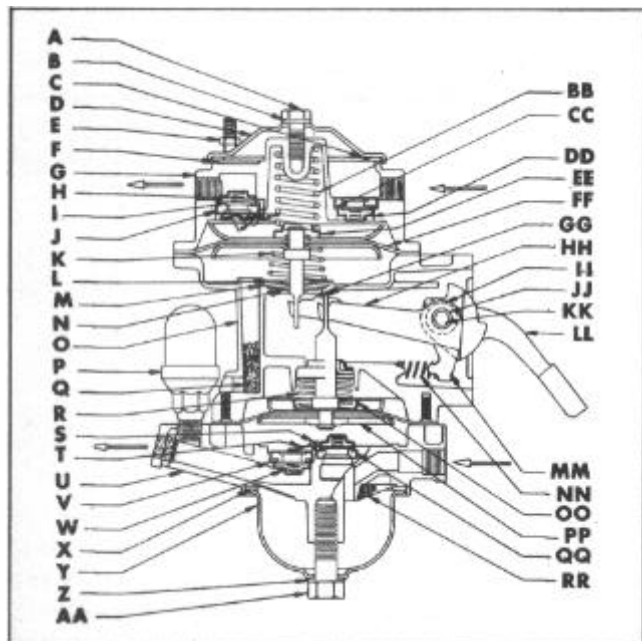

FIGURE 45
Rotation of the eccentric on the engine camshaft actuates the rocker arm (LL) Figure 45, which is pivoted and in turn pulls the pull rod and diaphragm assembly (PP) downward against the diaphragm spring, thus creating a vacuum in the pump chamber and opening the suction valve.